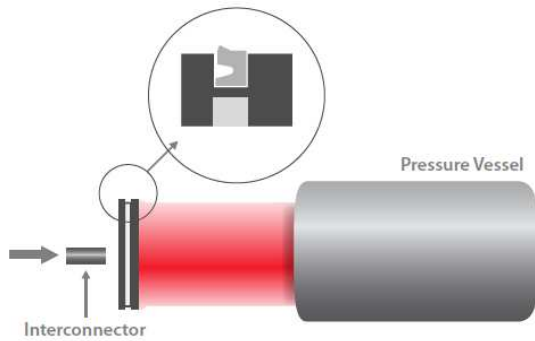

Figure 1.2: Insertion of the interconnector
4. Lubricate the O-rings of the interconnector with glycerine, and insert half of its length by gentle twisting into the permeate tube (Figure 1.2).